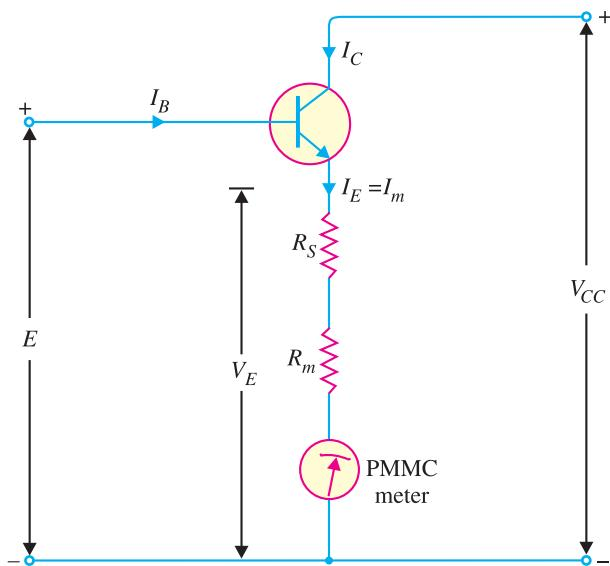

Fig. 22.17
Since vacuum tubes have become obsolete, these have been replaced by transistors and other semiconductor devices. Fig. 22.17 shows the circuit of an emitter-follower voltmeter. The voltage  $E$  to be measured is applied between base and emitter. A permanent-magnet moving coil (PMMC) instrument and a multiplier resistor  $R_m$  are connected in series with the transistor emitter. The circuit measures the voltage quite accurately because the emitter follower offers high input resistance to the voltage being measured and provides a low output resistance to drive current through the coil of PMMC meter.
**Example 22.6.** The emitter follower circuit shown in Fig. 22.17 has  $V_{CC} = 12 \text{ V}$ ;  $R_m = 1 \text{ k}\Omega$  and a 2 mA meter. If transistor  $\beta = 80$ , calculate (i) the suitable resistance for  $R_S$  to give full -scale deflection when  $E = 5\text{V}$  (ii) the voltmeter input resistance.
**Example 22.7.** The emitter-follower voltmeter circuit in Fig. 22.17 has  $V_{CC} = 20 \text{ V}$ ,  $R_S + R_m = 9.3 \text{ k}\Omega$ ,  $I_m = 1 \text{ mA}$  and transistor  $\beta = 100$ .